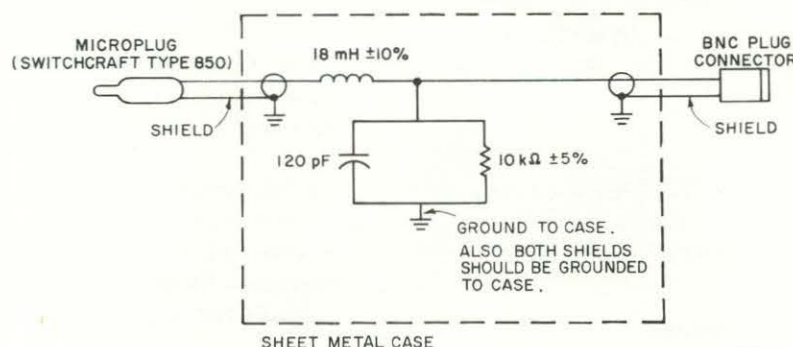

Figure 4-4. 100-kHz low-pass filter.
The following procedure requires the fabrication of the filter circuit shown in Figure 4-4.
b. Connect the 100-kHz low-pass filter shown in Figure 4-4 between SIGNAL OUT AC jack and the input of the 334-A Distortion Analyzer, via the GR 274-QBJ Adaptor.